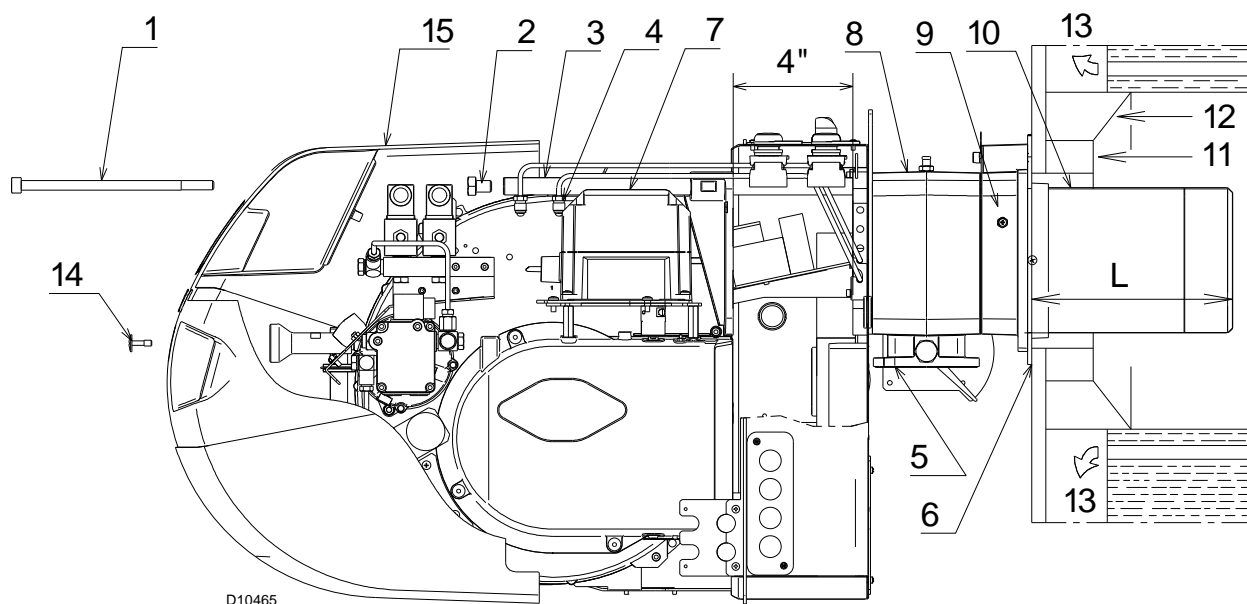
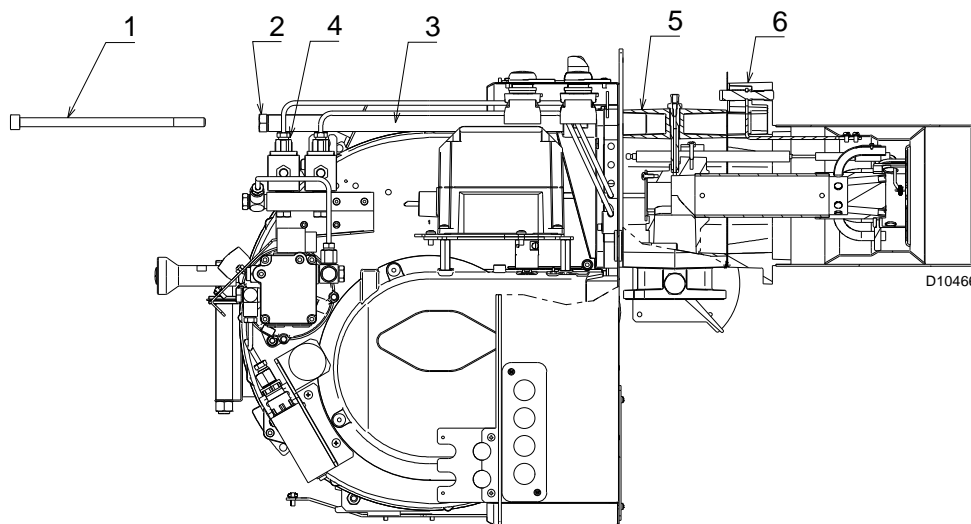

Fig. 11
Fig. 16
For boilers with front flue passes 13)(Fig. 11) or flame inversion chambers, protective insulation 11) must be inserted between the boiler refractory 12) and the blast tube 10).
Detach the combustion head from the burner (Fig. 11):
- Refit the burner 4)(Fig. 16) to the slide bars 3) at approximately 4" from the sleeve 5) - burner positioned as shown in (Fig. 11 at page 19);
- insert the ignition electrode cables and then slide bars the burner up to the sleeve so that it is positioned as shown in Fig. 16;
- connect the oil pipes again by screwing on the two connectors 4)(Fig. 11 at page 19).